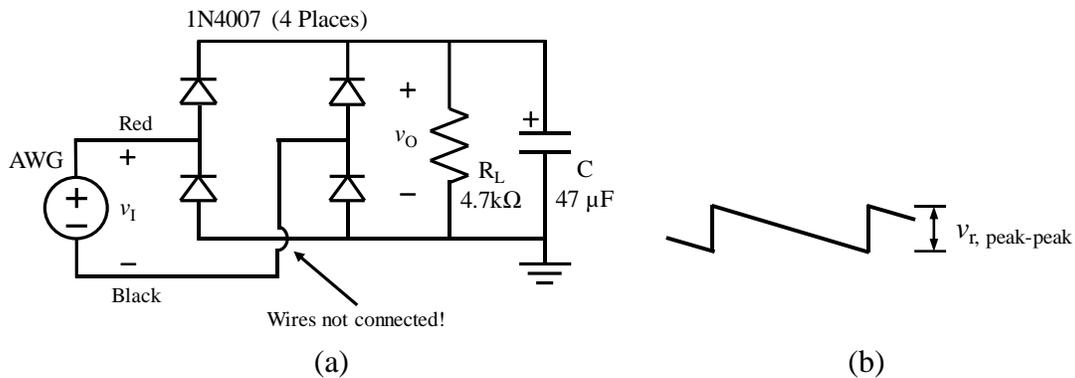

Fig. 3. Full-wave bridge rectifier with filter capacitor (a) circuit and (b) output ripple waveform.
If a large filter capacitor is added in parallel with the load resistor for either the half- or full-wave rectifier, the resulting ripple waveform is approximately a sawtooth superimposed on the dc level. Fig. 3 shows a filtered full-wave bridge rectifier circuit and the peak-peak ripple waveform. Each "tooth" in the ripple waveform can be approximated as a right triangle with maximum value equal to  $v_{o,peak}$ . It can be shown that the approximate *peak-peak* ripple amplitude for the filtered half-wave rectifier is
3. Perform the following calculations for the full-wave rectifier with filter capacitor in Fig. 3. Put your results in Table 1.